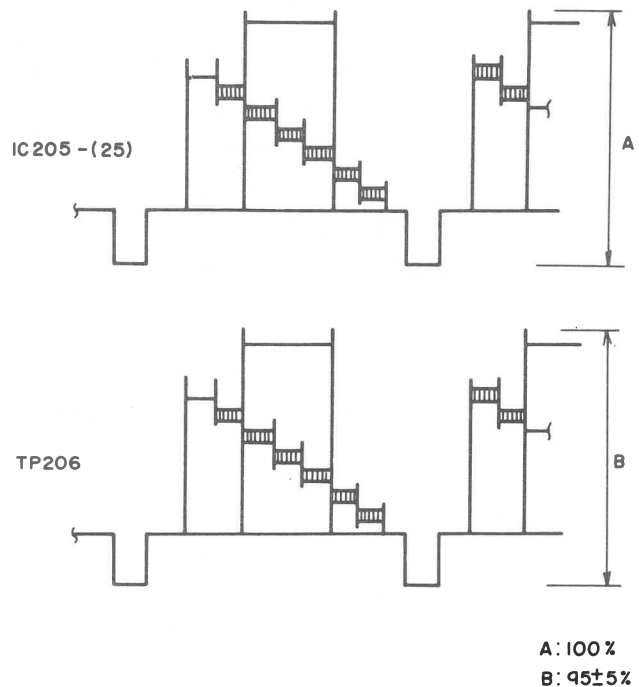

Fig. 11 1H Delay Line Output Level Adjustment
**1H Delay Line Output Level Adjustment (Fig. 11)**